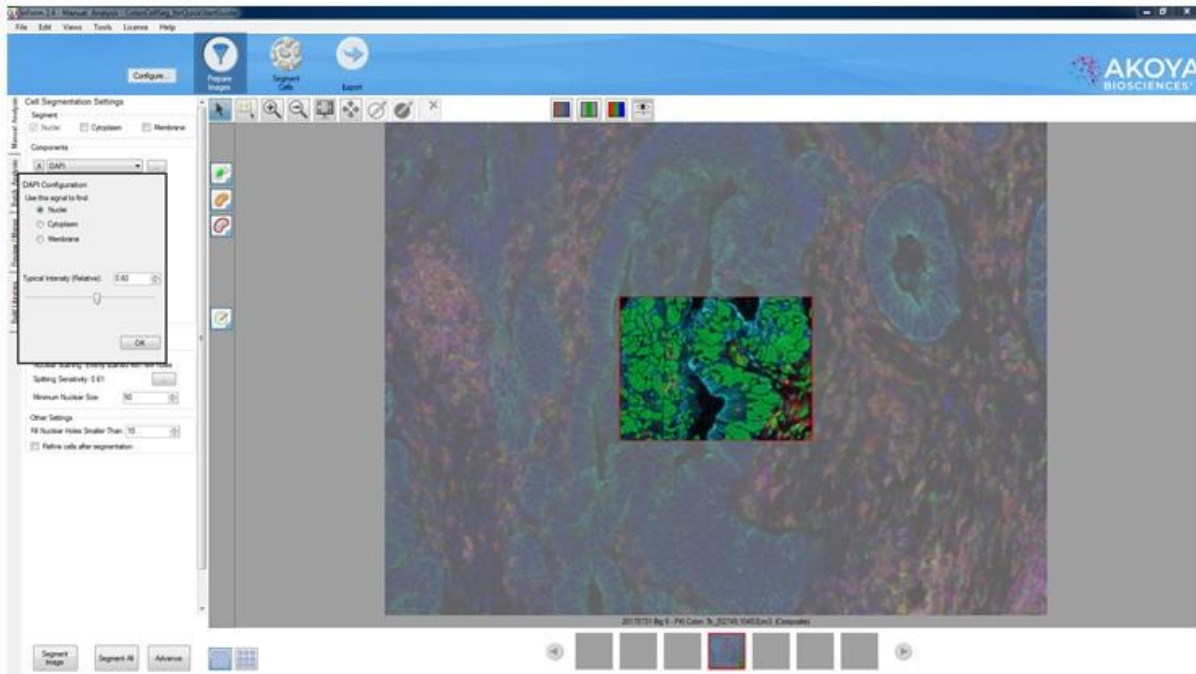

FIGURE G.2. Live Preview - DAPI Configuration Window.
- c. The Live Preview Window provides immediate feedback as segmentation parameters are adjusted with each step. (See Figure G.2.) The dotted red circle indicates where to choose which cellular compartments to segment. Red arrows indicate required selections for DAPI configuration.